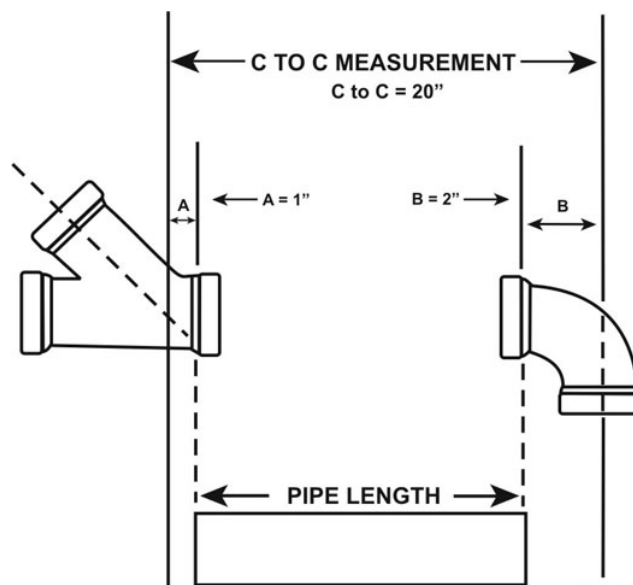

Figure 1-30. Determining plastic and copper pipe lengths.
Finding the length of plastic, copper, and no-hub pipe is very similar to the bell and spigot pipe. See figure 1-30 as we go through the steps. Locate the center of the fittings and take a center-to-center measurement. Then measure from the center point of each fitting to the bottom of the socket (measurements A and B). Add these two measurements ($A + B$) and subtract this total from the center-to-center measurement. This will give the end-to-end measurement of the pipe. For example, if the center-to-center measurement is 20", the wye fitting center to bottom of socket measurement is 1" (A) and the 90° elbow fitting center to bottom of socket measurement is 2" (B), then $20'' \text{ minus } 3'' = 17''$.